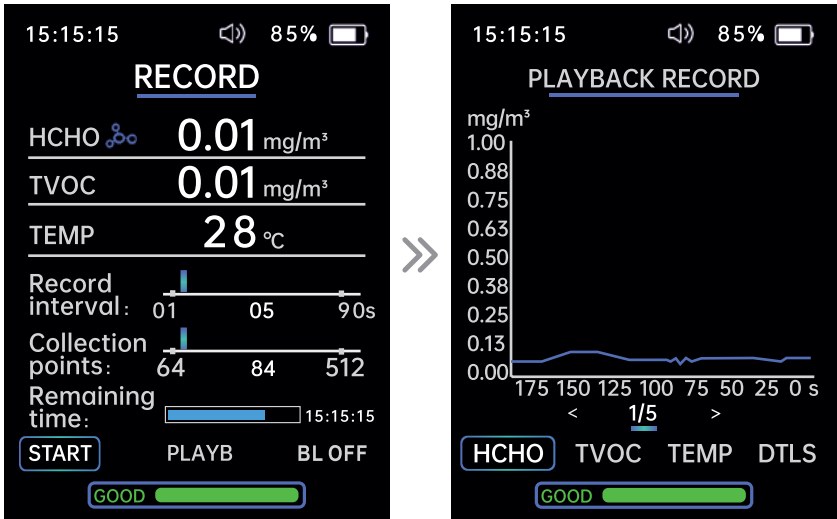

Figure 4
Press the Left (4) and Right (8) buttons to select start, playback, backlight, record interval, data collection points, and remaining time (Fig. 4).